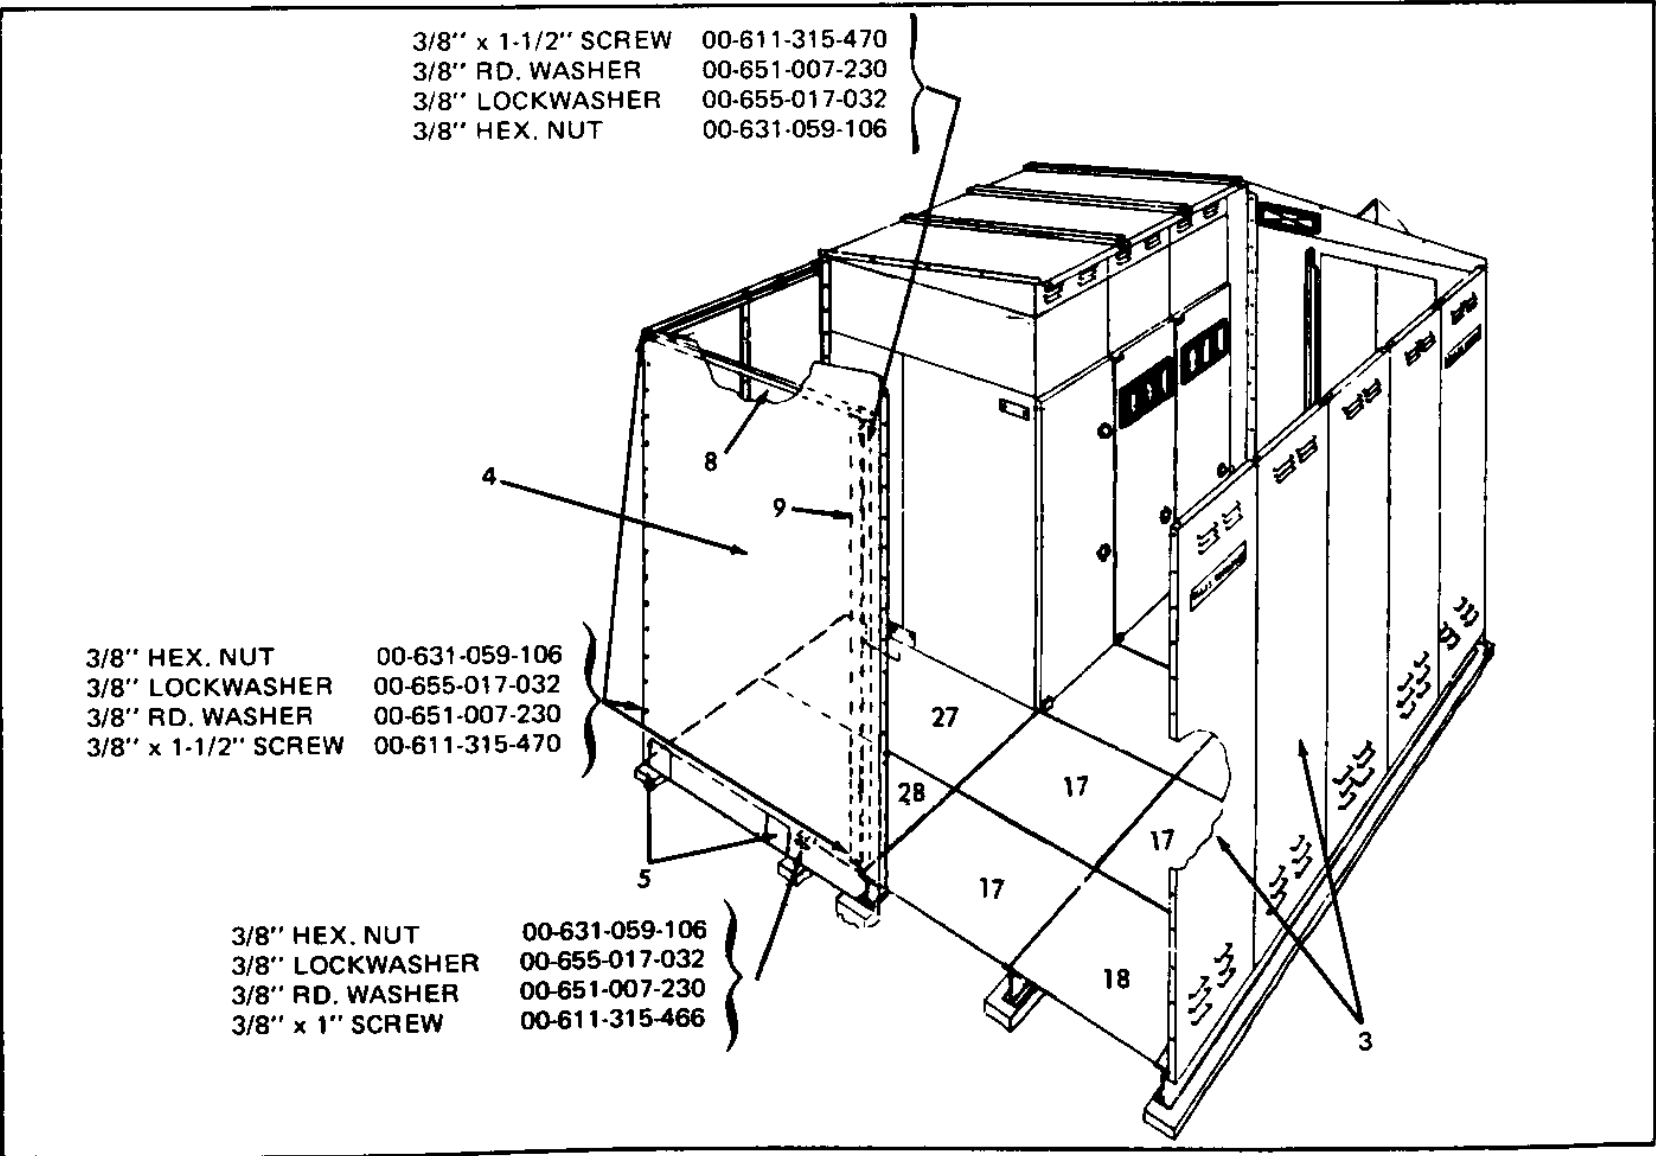

Figure 38. End Cover Installation (5 KV) – Single Aisle with Work Space
7. Bolt plates (3) together, to switchgear unit and to beam (1).
9. Attach angles (10) to ends of beams.
10. See Figure 38. Install angles (8 and 9) at the end of the work space. Secure the angles together with 00-615-331-466 flat head screws.
11. Install end plate (4) and attach it to plate
- (3) and angles (8), (9), and (10).
12. Install floor plates (17 and 18) in the same arrangement as that for single aisle layouts (see Figure 26). Install floor plates (27 and 28) as shown in Figure 38. Install cover (5).